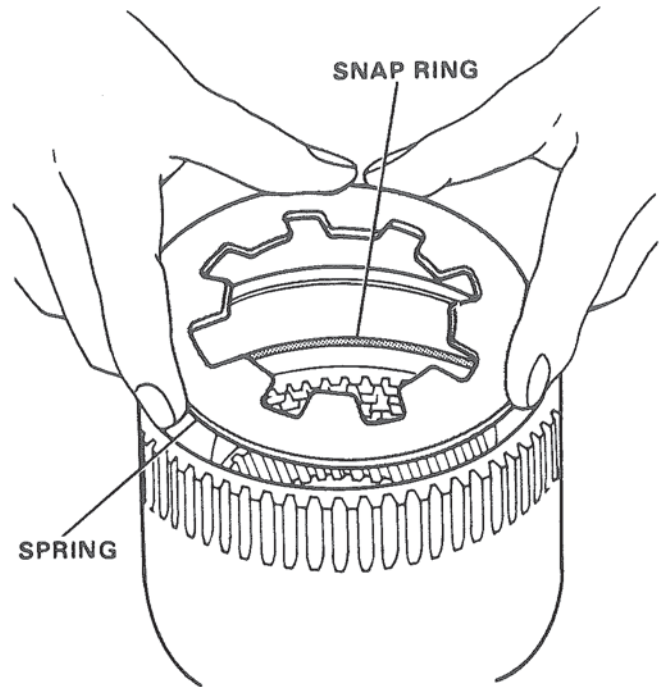

Figure 52. Installing Clutch Spring.
7. With the concave side of the clutch spring facing down, install in ring gear. Figure 52. Assembly is complete when the clutch spring is seated firmly and squarely on clutch snap ring.